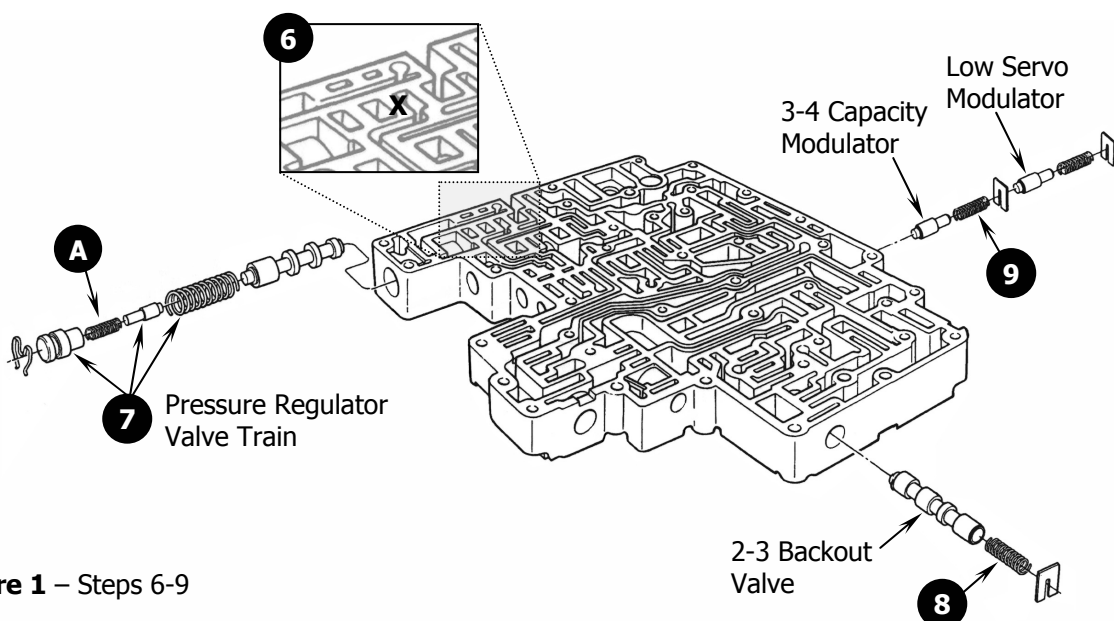

Figure 1 – Steps 6-9
Step 6. See **Figure 1**. Cross drill the valve body at the location marked X to connect the shaded passages using the 1/16" (.062) drill bit supplied. Thoroughly clean the valve body and filter with solvent and blow off with compressed air.